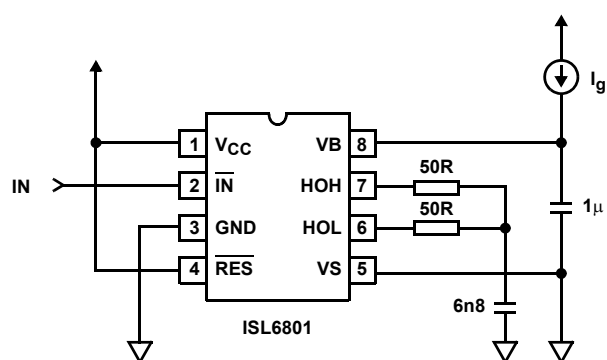

FIGURE 3. VB DROP VOLTAGE TEST CIRCUIT
- The drop voltage is caused by VB to VS current flow during switching. See Figure 3.